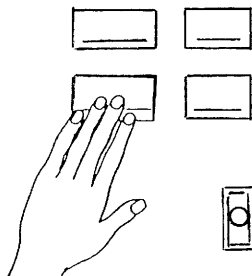

Figure 9
3. Push the Service Mode Button five (5) times. **SPr** displays.
4. Push the selection button of the item to be priced. See **Figure 9**. The current vend price for that selection displays.